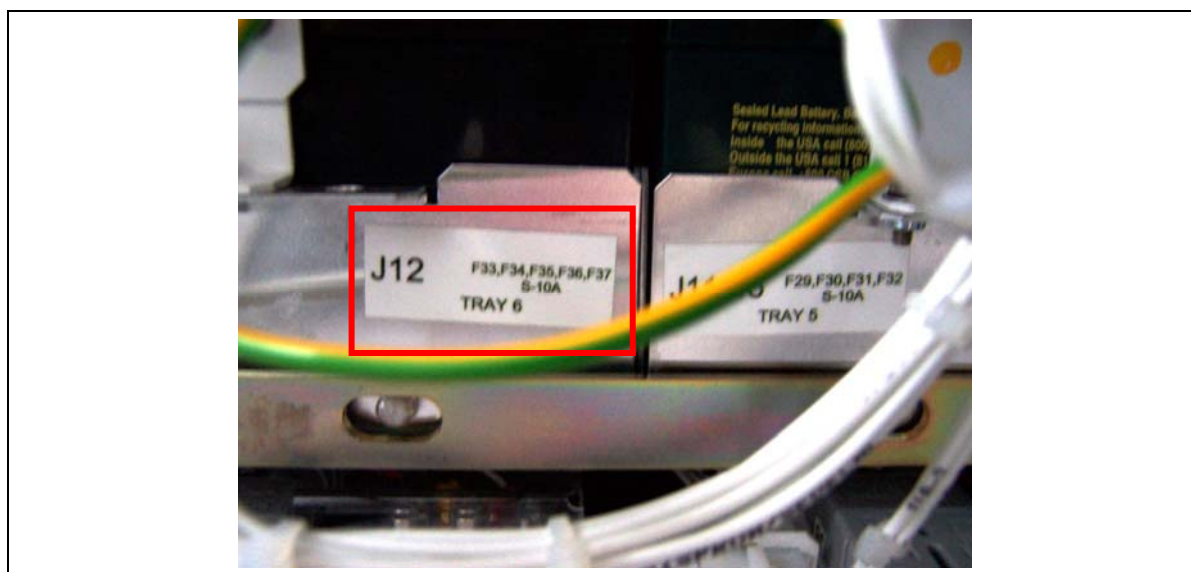

Figure 6
- using printed labels with the correct connection points (see Figure 6) or